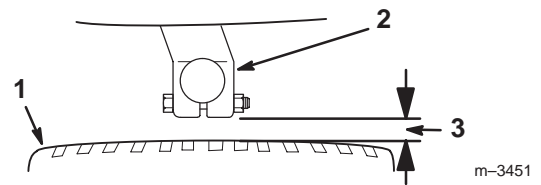

Figure 5
17. Look at the end of the steering arm and the inside edge of the tire. The end of the steering arm and the inside edge of the tire must be parallel (Fig. 5).